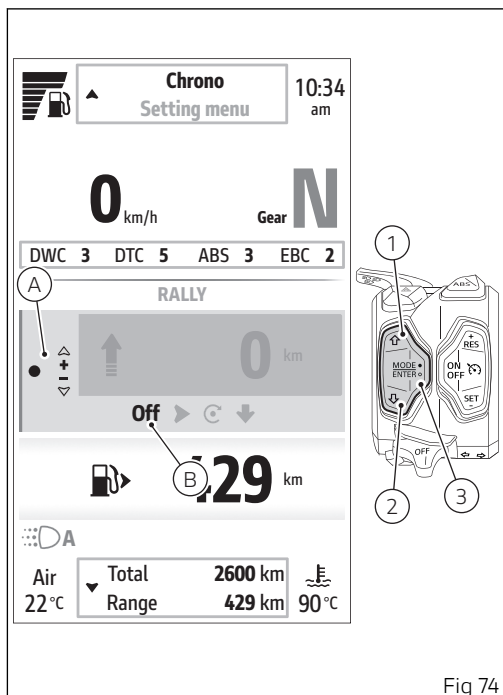

Fig 74
- If the trip master is deactivated, "Off" is displayed (B, Fig 74). Long press the ENTER button (3) to enable it.
- If the trip master has already been activated previously, "On" is displayed (C). Long press the ENTER button (3) to disable it.